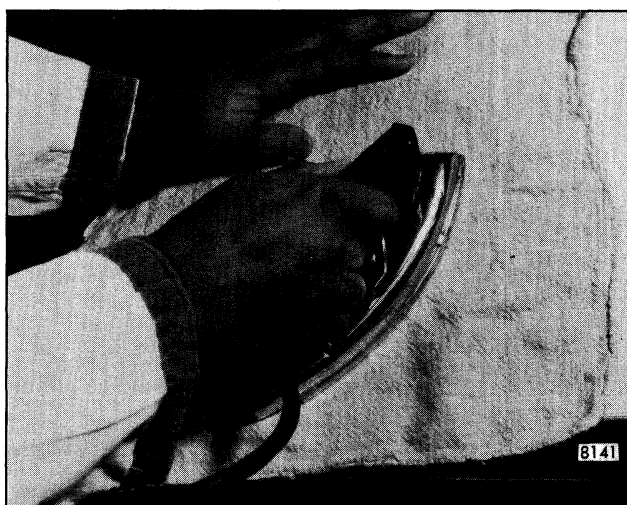

Fig. 8-51-Removing Wrinkles with a Dampened Cloth and Home Type Iron
2. Using a household type flat iron with heat control set for medium heat (cotton or lower), iron wrinkled area (Fig. 8-51).